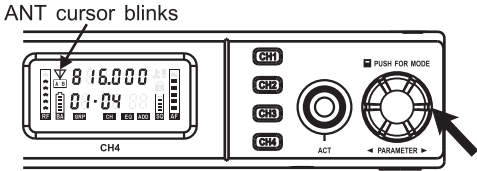

Fig. 16 Three selections available
- (1) Press the rotary button to select parameters. Current CH number blinks to denote it can be changed readily.
- (2) Turn the knob right to increase or left to decrease a CH number.
- (3) Press the knob again, CH number stops blinking and saves the new channel number automatically.
- (4) When SQ meter shows full-grid, it will enter CH selection forcibly.
- (5) The last group enables the user to select and save up to 16 frequencies.
(C) ANTENNA Setting. Fig. 16: